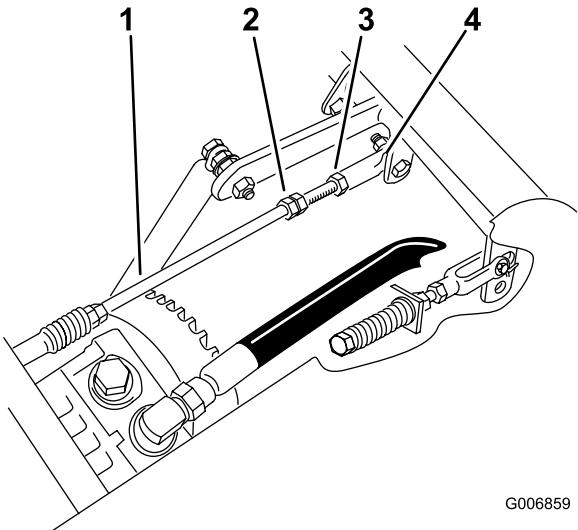

Figure 47
4. Loosen the locknut at the ball joint on right hand pump control rod (Figure 47).
5. Tighten the locknut at the ball joint and test the tracking (Figure 47).